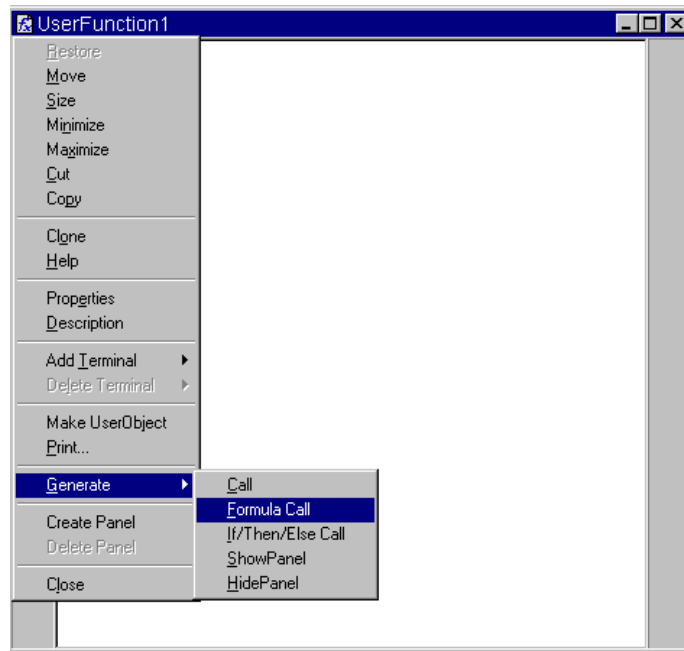

Figure 7-7. The Generate Menu in a UserFunction
2. In the `UserFunction` `ArrayStats`, select the object menu and select `Generate ⇒ Formula Call`. Figure 7-7 shows the `Generate` menu in a `UserFunction` object menu.